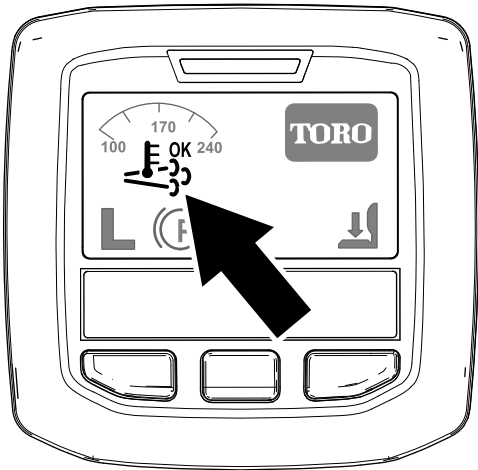

Figure 21
- The assist/reset-regeneration icon displays in the InfoCenter (Figure 21).